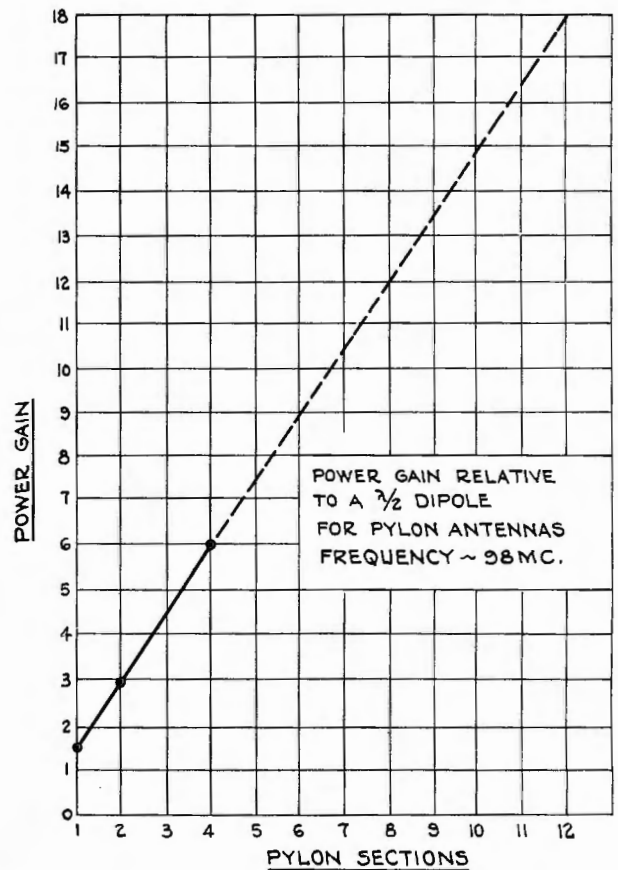
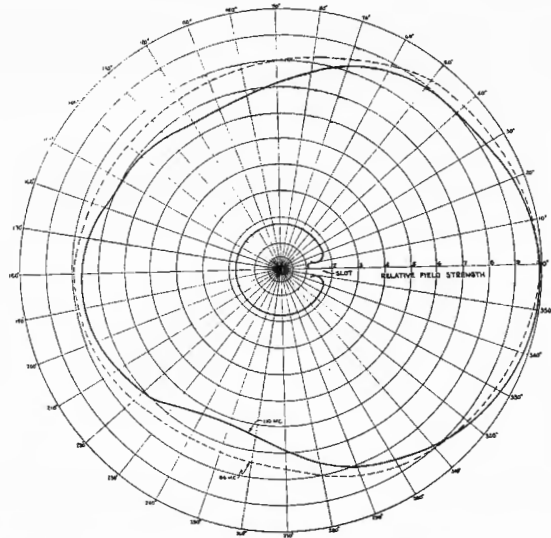

FIG. 7. Power gain of the Pylon Antenna as compared to radiation from a half-wave dipole. Height-for-height these gains exceed other types.
FIG. 8. Horizontal field pattern of the Pylon Antenna for frequencies at either end of the FM band.
3. PROVIDES HIGH GAIN where needed. By stacking sections vertically, radiation is suppressed in the horizontal plane (Figure 6) with subsequent power gain. As many as four sections, possibly more, may be stacked to provide gains as shown in Figure 7. The horizontal pattern is essentially omni-directional (Figure 8).